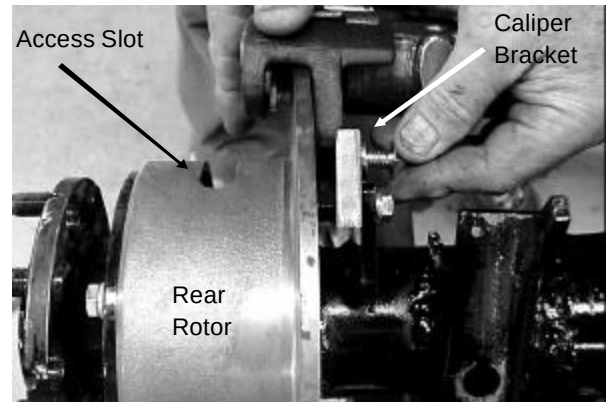

Figure 10 – Rear Rotor
- 7) Remount caliper to caliper mounting bracket. See Figure 10.